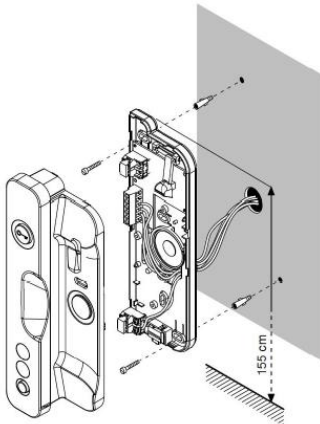

Fig. 2
2. Attach the uniphone to the wall using the 2 wall plugs supplied with the uniphone (Fig. 2).